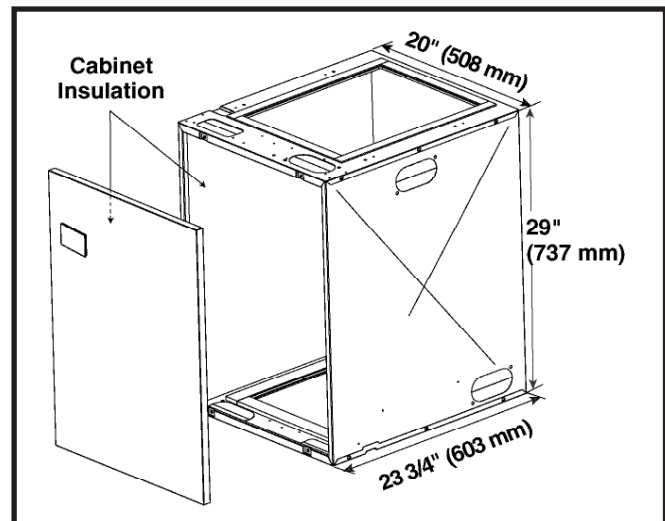

Figure 2. Upflow Coil Cabinet
Alcove installations: use return air grille & frame assembly P/N 902989 or equivalent. See Figure 2 \(page 7\).
- Use the filter supplied with the furnace. Make sure the filter is installed mat side down between the filter retainer and furnace top. See Figure 2.
A return air grille and frame assembly (Figure 2 (page 7)) is available for use in unducted return air installations. In downflow alcove installations, the grille and frame assembly may be mounted directly to the top of the furnace. In closet installations, a wall mount grille is available for attachment to a door or wall.
2. Attach frame assembly with four fasteners (provided or equivalent) into pre-punched holes on top of furnace. See Figure 2 (page 7). **NOTE:** If additional securing is required, attach each side of frame assembly to alcove opening using holes provided.